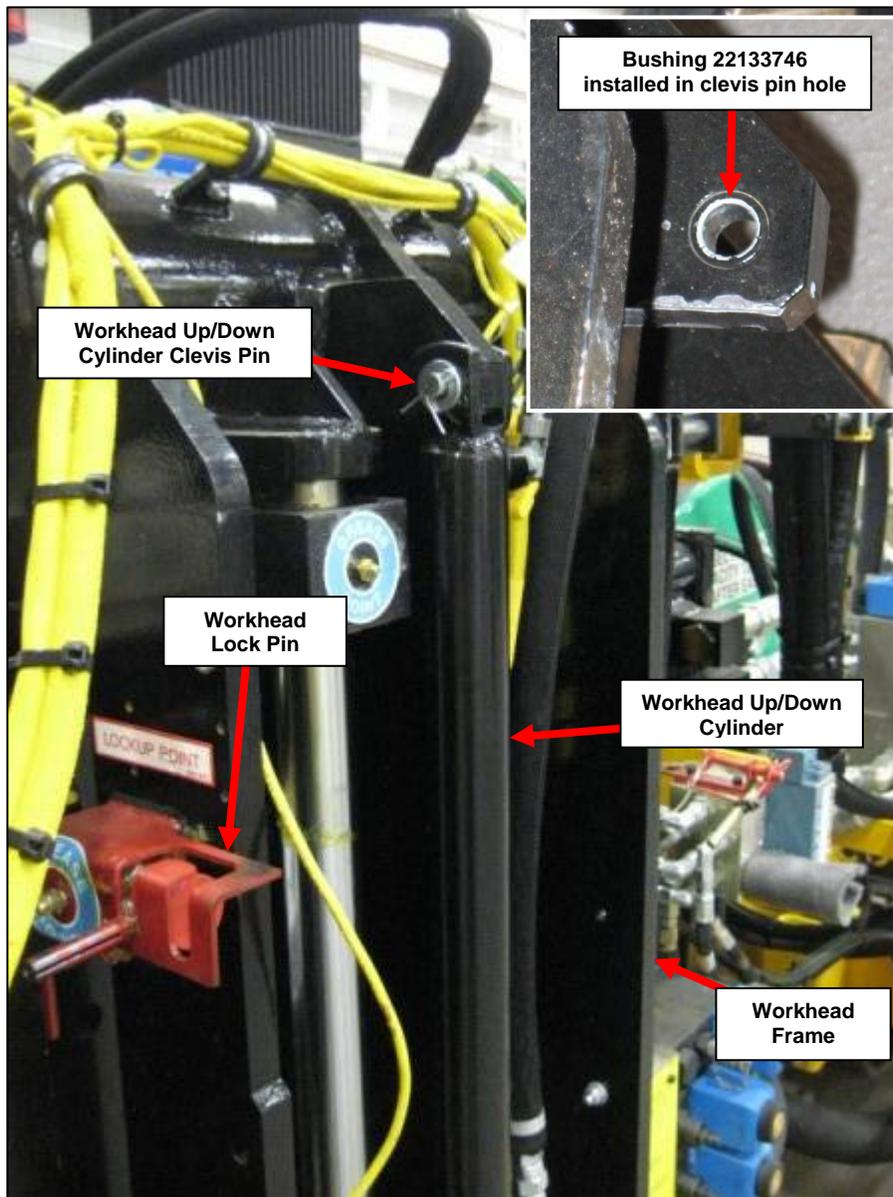

Figure 1
**ACTION:** All machines with serial numbers 410867 and higher have the bushing installed. If bushing replacement is necessary, the bushing may be pressed out and a new bushing pressed into place. See Figure 1 on Page 2. The following replacement Workhead Frames are also affected by this change: